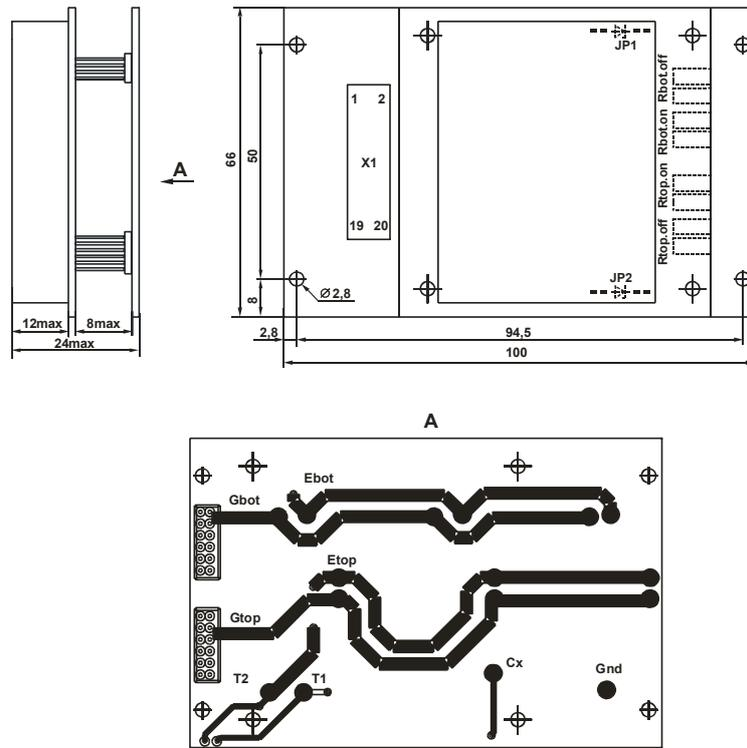
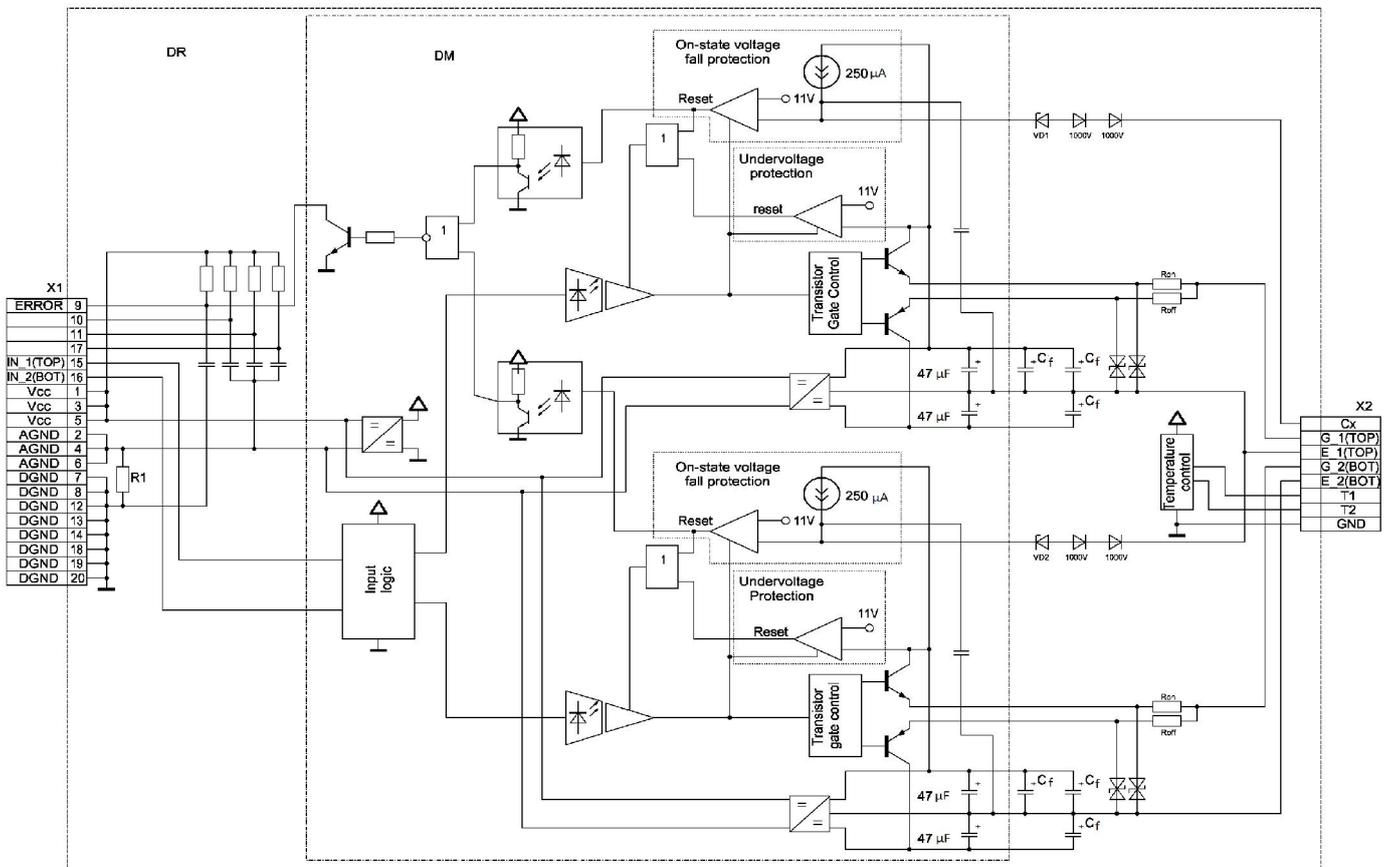

Figure 1 – Overall drawing
Figure 2– Functional driver circuit
3.1 Overall drawing is shown at Figure 1, driver functional circuit and turn-on circuit are presented at Figure 2.